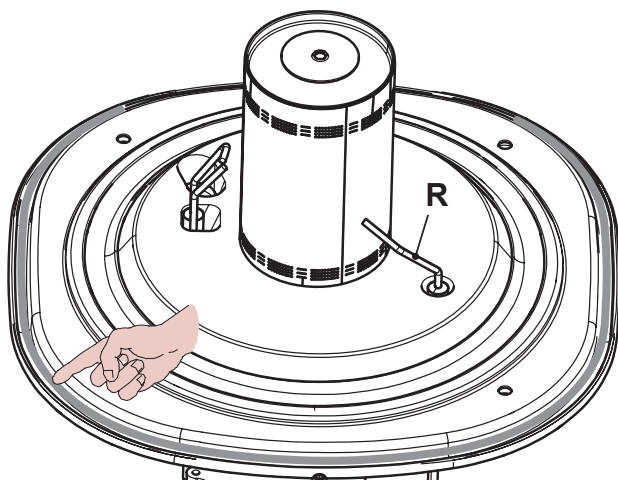

Fig. 9.13
- The silicon gasket on the front panel of the combustion chamber Fig. 9.13 has to be changed when deteriorated and in any case
- The detection electrode R in Fig. 9.13 also functions as a sensor for the correct drainage of the condensate. Should the mentioned electrode come into contact with the condensate water present within the combustion chamber it sends the boiler into safety lockout. Therefore, should the insulation be wet or deteriorated, provide for the substitution of the same.